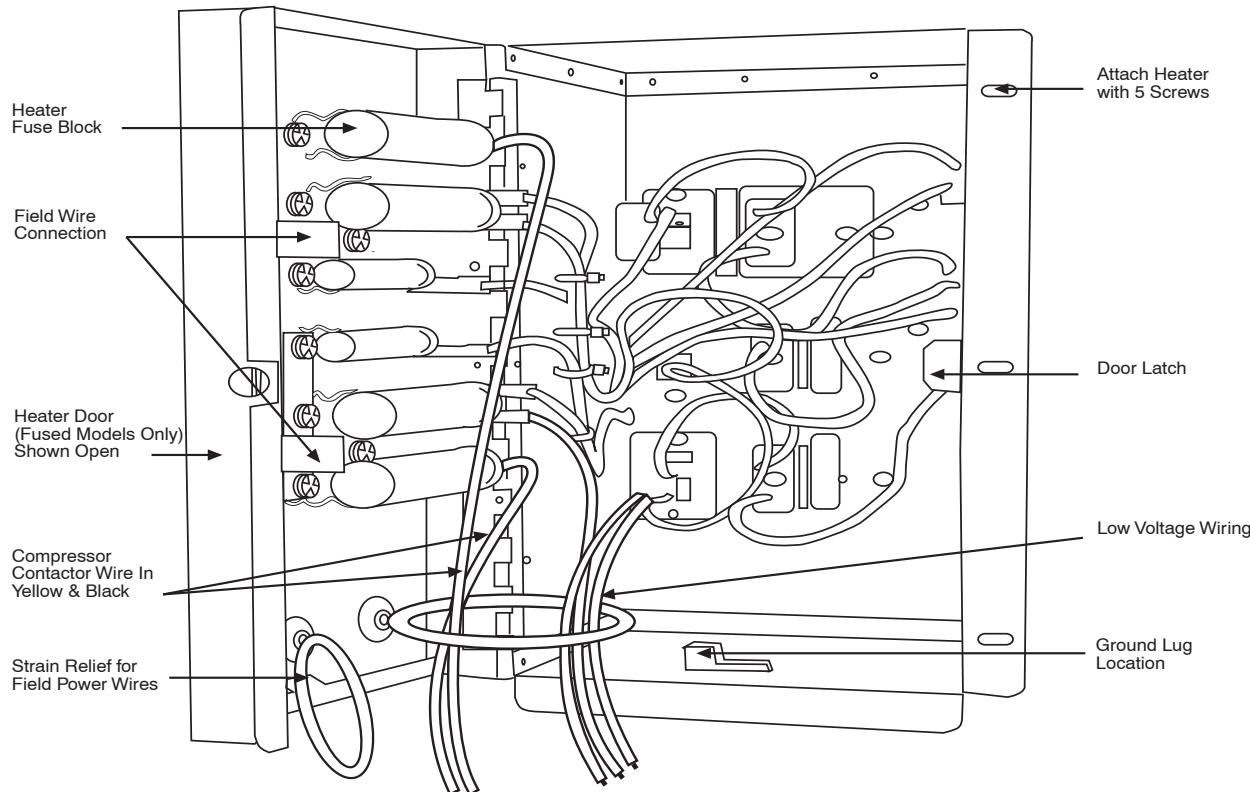

Fig. 10 – Fused Heater Control Box
4. Insert field power line through the electrical heater access panel hole (see Fig. 6 or 7) and connect to electric heater as shown in their respective wiring diagram. Fused electrical heaters field lines will be connected to the fuse block lugs (see Fig. 10) and non fused electric heater field lines will be connected to heater leads using wire nuts. Ground electrical equipment in the appropriate locations.
3. Insert first field power line through the electrical heater access panel bottom hole (see Fig. 8 or Fig. 9) and connect to electric heater as shown in their respective wiring diagram found on the heater accessory kit. Fused electrical heaters field lines will be connected to the fuse block lugs (see Fig. 10.) and non fused electric heater field lines will be connected to heater leads using wire nuts. Ground electrical equipment in the appropriate locations.